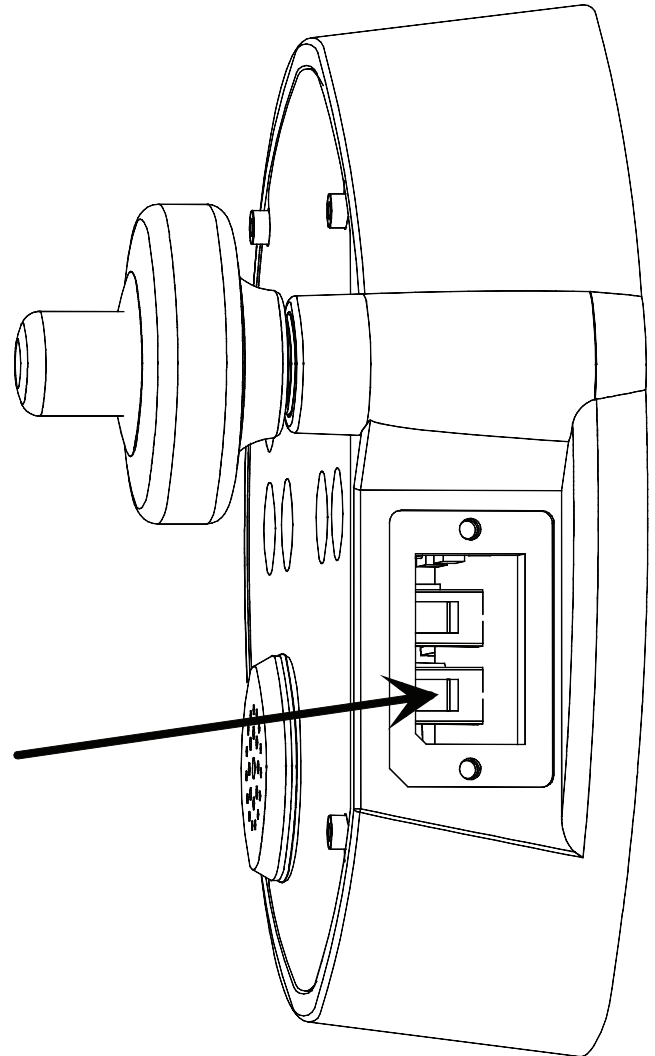

Figure 11-1
- ☉ Measure the resistance between the ground (-) terminal (as shown on Figure 11-1) of the electronic circuit and the tube of the sensing probe; the resistance should be less than 10 Ω . If it is higher, the steel tape might be broken or the connection between the sensing probe circuit and the sensing probe tube might be interrupted.